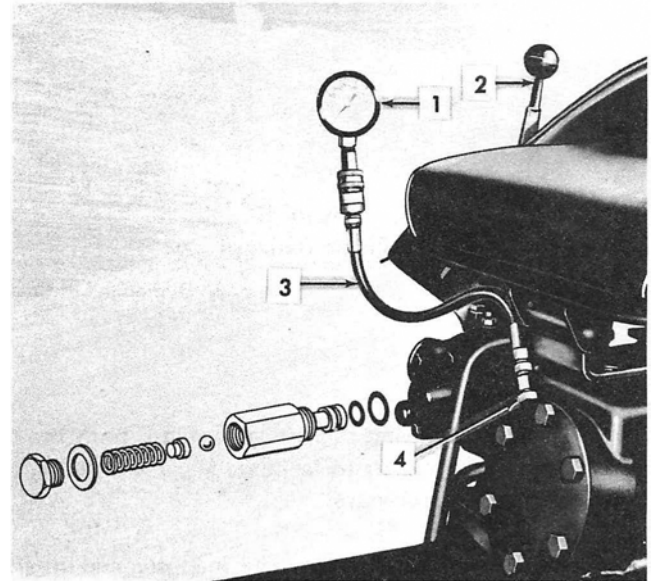

Figure 9
2. Install the adapter into the cylinder head, see Figure 9. Refer to Chapter 2, Section 3, "Special Tools," for correct fittings used in the pressure test.